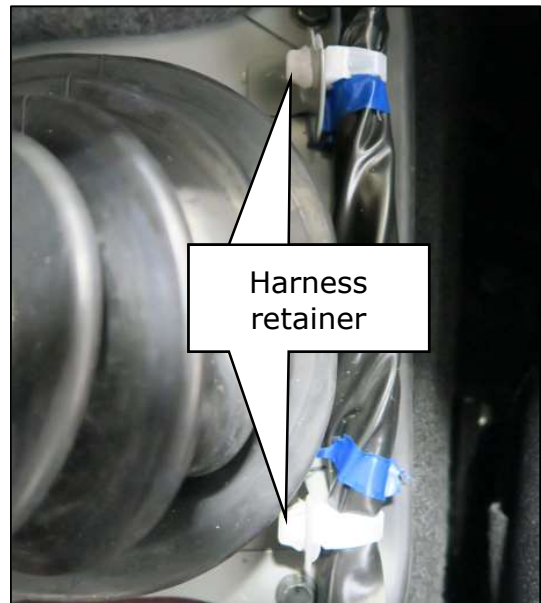

Figure 22
21. Disengage the (2) harness retainers from the hole cover. (Figure 22)